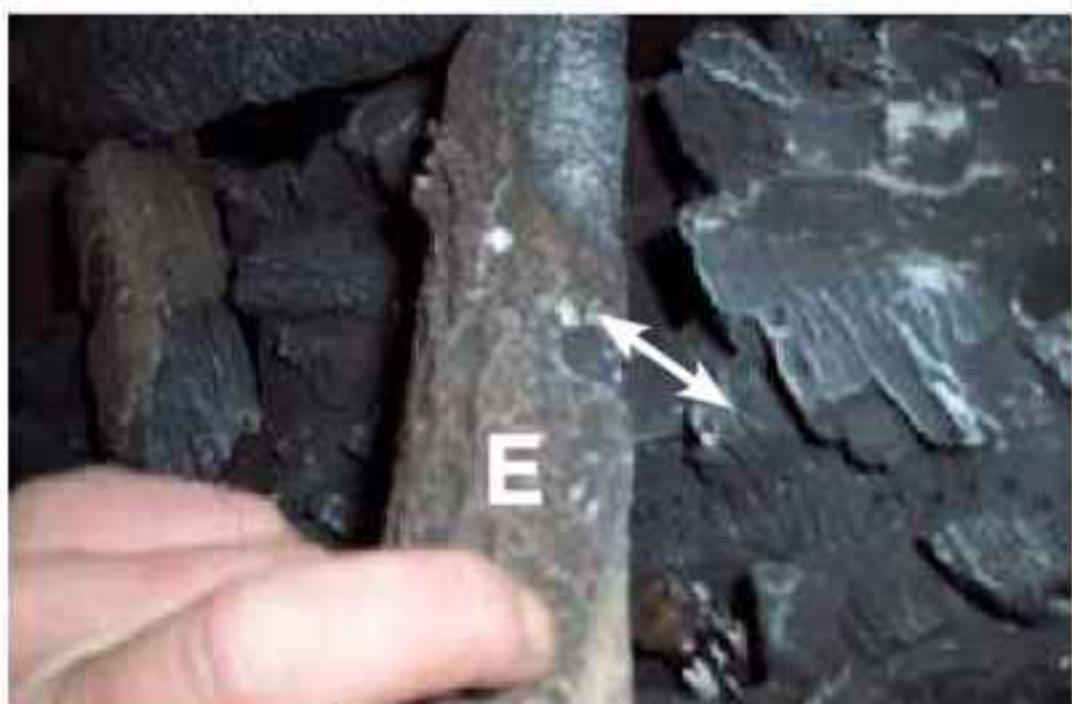

Figure 92: Log E Locator
10) Identify locator on Log H and opposing Locator on Log B as shown in Figure 92. Place Log H gently on Log B.